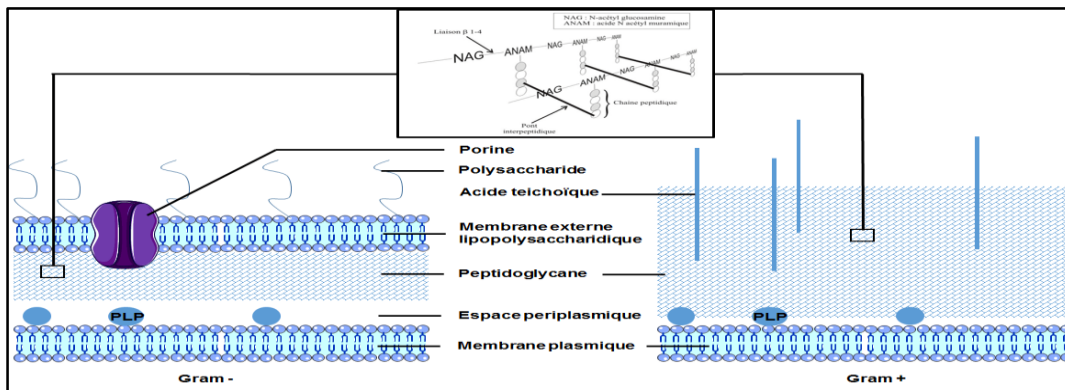

Figure 11 : Penicillin target.
- They are time-dependent bactericidal antibiotics that inhibit the peptidoglycan in the bacterial cell wall after binding to target enzymes located at the cytoplasmic membrane: penicillin-binding proteins (PBPs). This prevents the final step of peptidoglycan synthesis (an essential component of the cell wall), leading to bacterial lysis (figure 11).